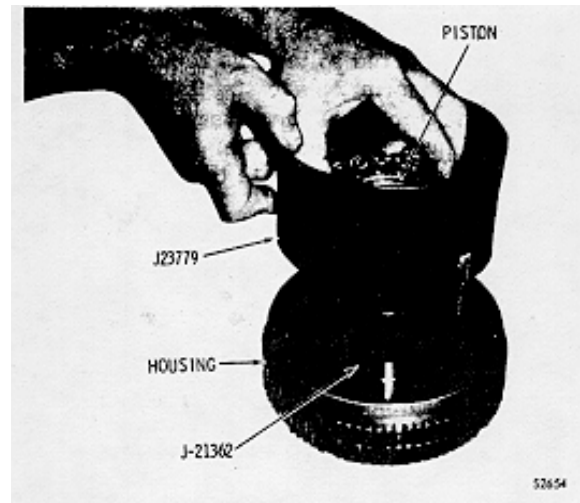

Fig. 6-40. Installing forward clutch housing piston, using sealring protector tool
(3) Apply lubricant to the outer surface of tool J-21362 and the inner surface of tool J-23779 to prevent the dislocation of the seals during tool removal. Place the sealring protector tools over the inner and outer sealring surfaces of the piston housing (fig. 6-40).
(4) Install piston 13, with sealrings, into forward clutch housing 8 until the piston bottoms against the housing. Remove tools J-21362 and J-23779 from the housing.
(5) Beginning with an external-tanged plate, alternately install five external-tanged 21 and five internal-splined 22 plates into forward clutch housing assembly 7.
(6) Install fourth clutch driving hub 25 into housing assembly 7, engaging the tangs in the slots. Install snapping 24 into housing assembly 7.